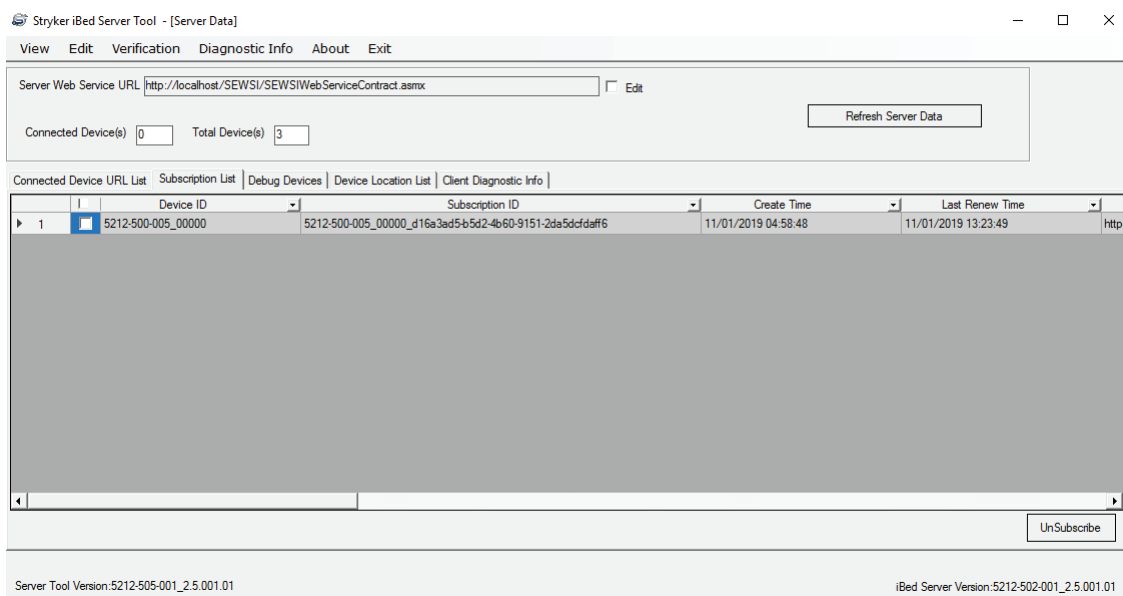

Figure 75 – General subscription
- Make sure that the server has a general subscription and each device has both a general and alarm subscription (Figure 75).